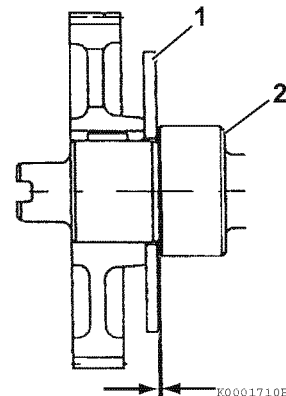

Figure 6-96
- **Method B:** Use a feeler gauge to measure the clearance between the thrust plate (1, **Figure 6-96**) and front camshaft bearing (2, **Figure 6-96**). See *Thrust Bearing* on page 6-12 for the service limit.